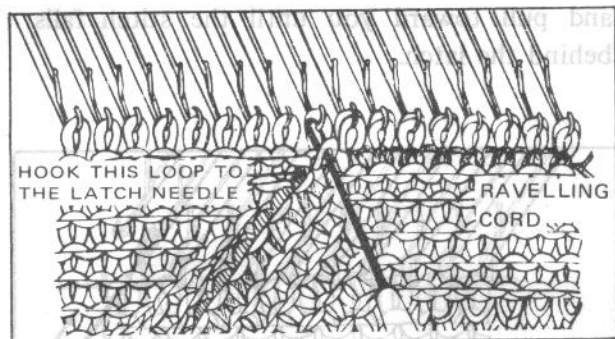

Fig. 2
3. Using transfer tool, pick up base yarn loops next to the ravelling cord and hang on opposite needles. (Fig. 2)